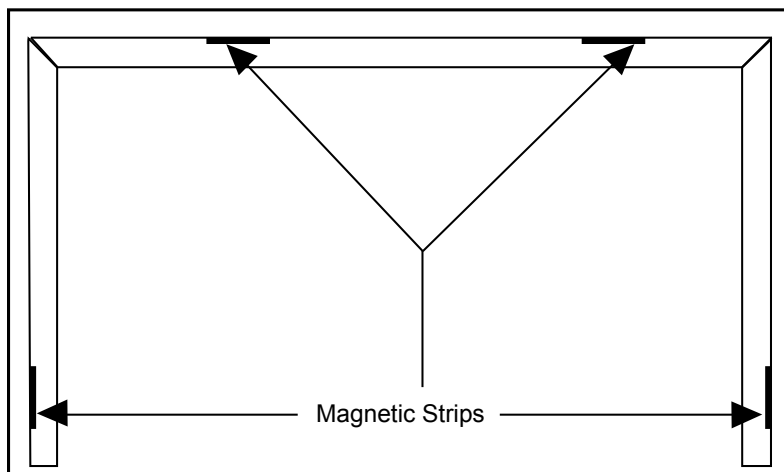

Figure 51: Magnet placement on trim.
1. Remove the backing off the magnets and stick them inside the trim pieces as shown in Figure 51.